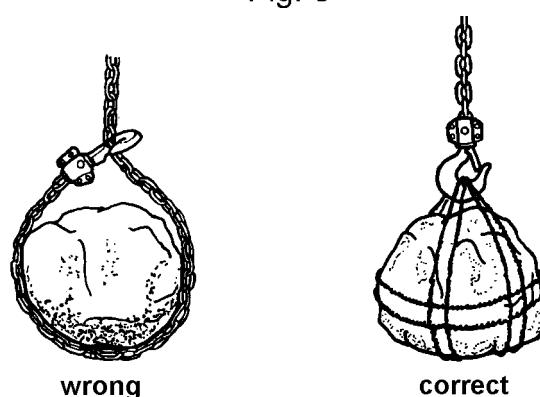

Fig. 9
- When lifting loads, hook the load with slings. **Do not use the puller chain as a sling**, (Fig. 9).